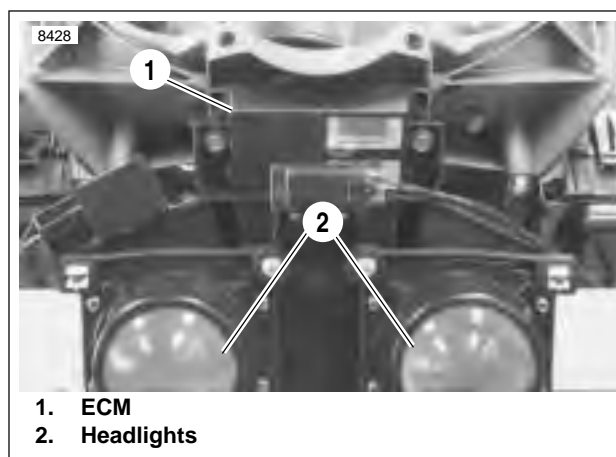

Figure 4-128. Electronic Control Module
1. See Figure 4-128. If the lamp goes off when the black ECM connector [10] is unplugged, the BK/Y wire is **not** shorted to ground.